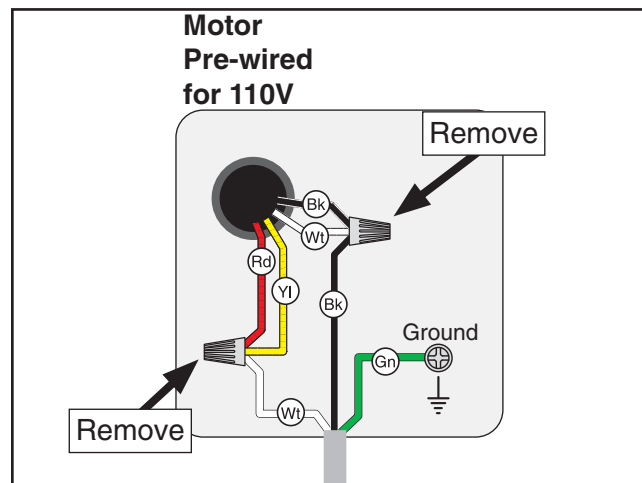

Figure 4. Motor pre-wired for 110V.
3. Remove the two wire nuts from the wires shown in **Figure 4**.
4. Re-wire the motor as shown in **Figure 4**.